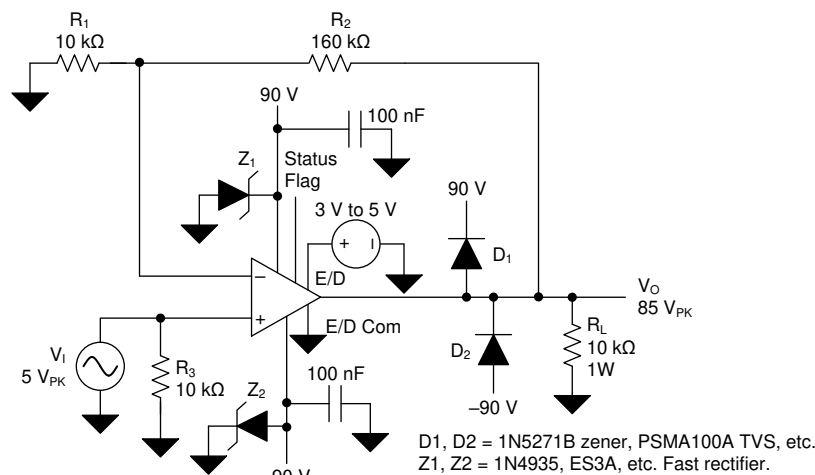

图 61. OPA462, High-Voltage Noninverting Amplifier,  $A_V = 17$  V/V
The OPA462 high-voltage op amp can be used in commonly applied op amp circuits, but with the added capability of allowing for the use of much higher supply voltages. A very common application of an op amp is that of a noninverting amplifier with a gain of 1 V/V or higher. 图 61 shows the OPA462 in a noninverting configuration.
图 61 shows a noninverting circuit with a moderately high closed-loop gain ( $A_V$ ) of 17 V/V (24.6 dB). In this example, a  $5\text{-}V_{PK}$  ac signal is amplified to  $85\text{-}V_{PK}$  across a  $10\text{-}k\Omega$  load resistor connected to the output. The peak current for this application is 8.5 mA, and is well within the OPA462 output current capability. Higher output current, typically up to 30 mA, may be attained at the expense of the output swing to the supply rails. A  $\pm 90\text{-}V_{DC}$  power supply is required for this configuration.
A potentially destructive mechanism is the back EMF transient that can be generated when driving an inductive load.  $D_1$ ,  $D_2$ ,  $Z_1$  and  $Z_2$  in 图 61 have been added to the basic OPA462 amplifier circuit to provide protection in the event of back EMF. If the voltage at the OPA462 output attempts to momentarily rise above  $V_+$ ,  $D_1$  becomes forward-biased and clamps the voltage between the output and  $V_+$  pins. This clamp must be sufficient to protect the OPA462 output transistor. If the event causes the  $V_+$  voltage to increase the power supply bypass capacitor,  $Z_1$ , or both, a Zener diode or a transient voltage suppressor (TVS) can provide a path for the transient current to ground.  $D_2$  and  $Z_2$  provide the same protection in the negative supply circuit.
The OPA462 noninverting amplifier circuit with a closed-loop gain of 17 V/V has a small-signal,  $-3\text{-dB}$  bandwidth of nearly 800 kHz. However, the large-signal bandwidth is likely of greater importance in a high-output-voltage application. For that mode of operation, the slew rate of the op amp and the peak output swing voltage must be considered in order to determine the maximum large-signal bandwidth. The slew rate (SR) of the OPA462 is typically  $6.5\text{ V}/\mu\text{s}$ , or  $6.5 \times 10^6\text{ V/s}$ . Using the  $85\text{-}V_{PK}$  output voltage available from the circuit in 图 61, the maximum large-signal bandwidth is calculated from the slew rate formula. 公式 1, 公式 2 and 公式 3 show the calculation process.